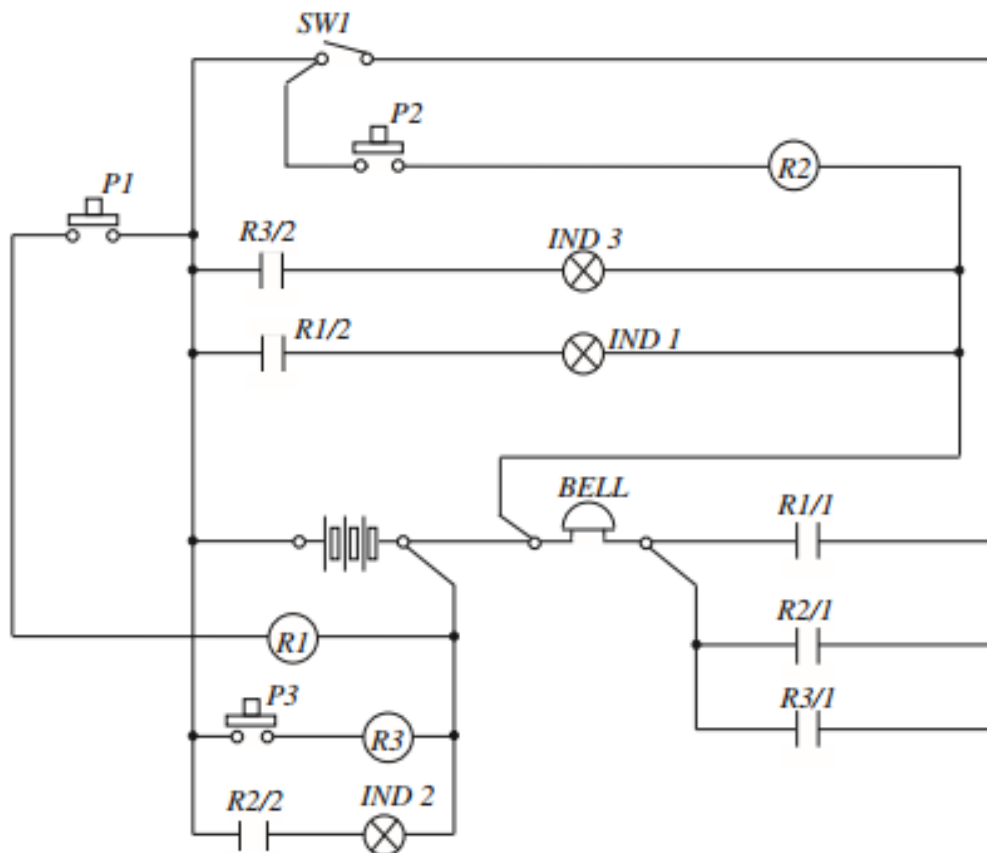

FIG. 1
1. The circuit diagram of FIGURE 1 is of a bell indicator circuit.
- (b) (i) Convert the diagram of FIGURE 1 into a suitable PLC ladder diagram having the simplest form.